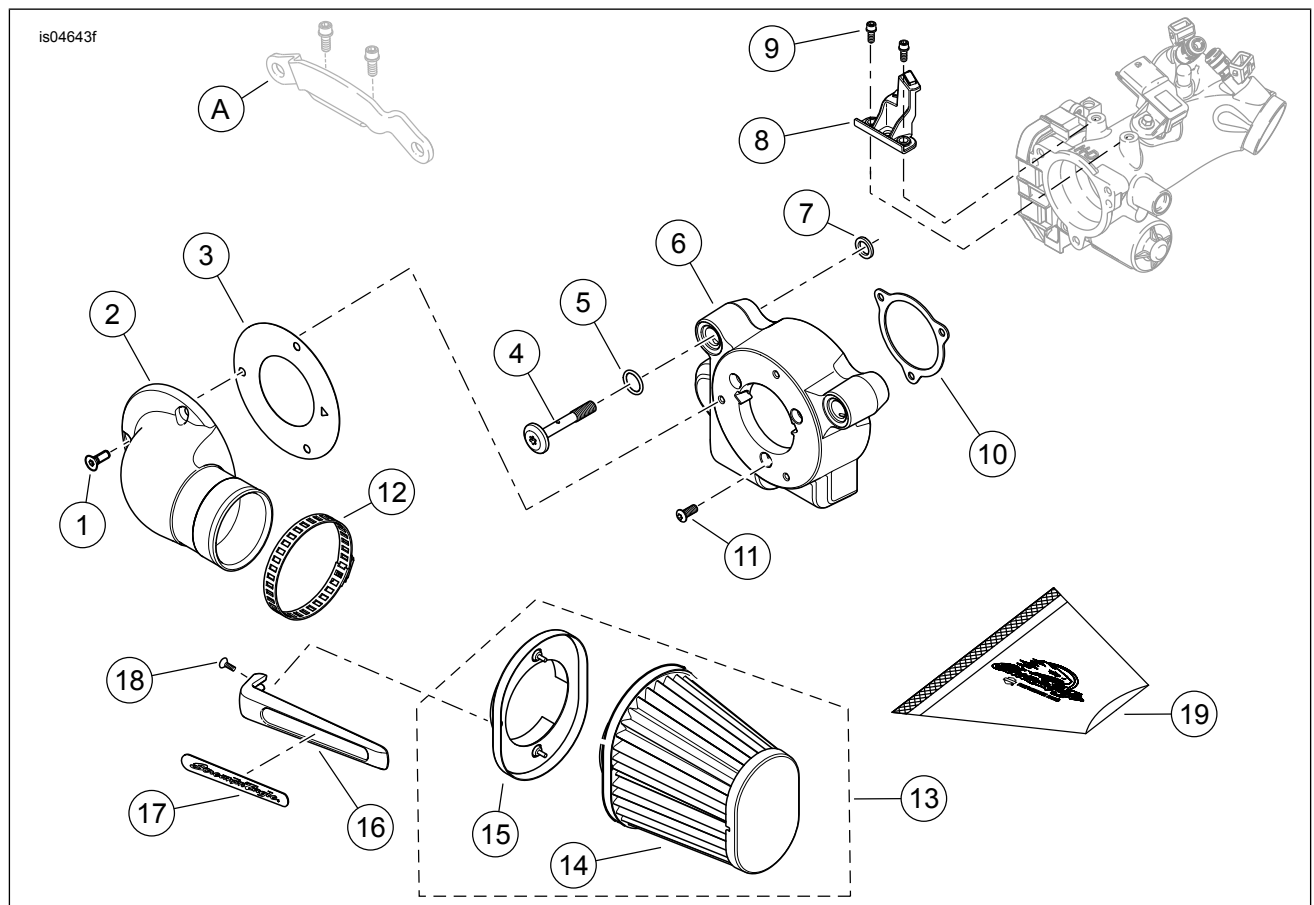

Figure 1. Service Parts: Screamin' Eagle "Heavy Breather - Elite" Performance Air Cleaner Kit
See Figure 1 and Table 1.
2. See Figure 1. Remove and discard support induction module bracket (A).